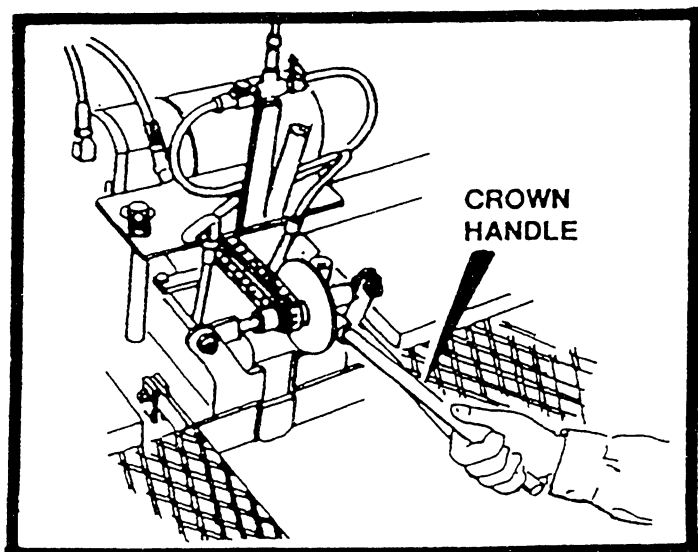

FIGURE 31
- B. Remove crown handle from holder and insert it into opening on control as shown in figure 31.